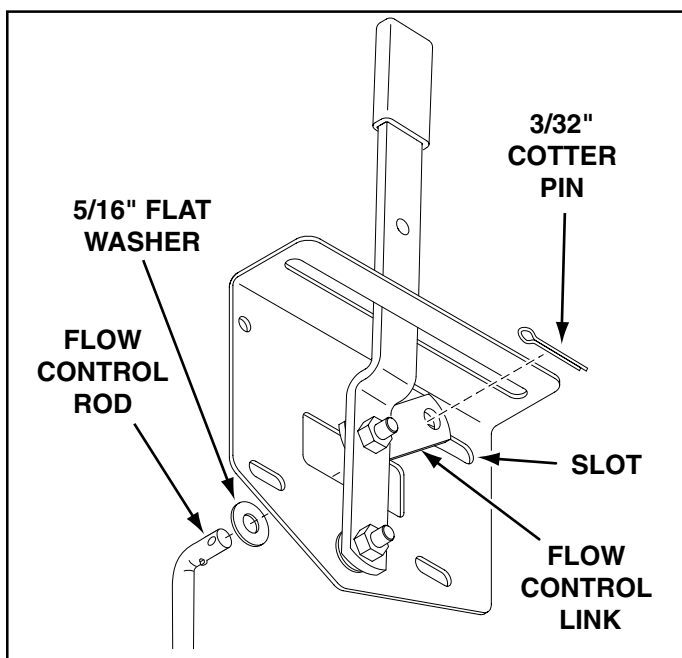

FIGURE 8
16. Place a 5/16" flat washer onto the end of the flow control rod. Insert the end of the rod through the slot in the flow control mounting bracket and through the hole in the flow control link. Secure with a 3/32" x 3/4" cotter pin. See figure 8.